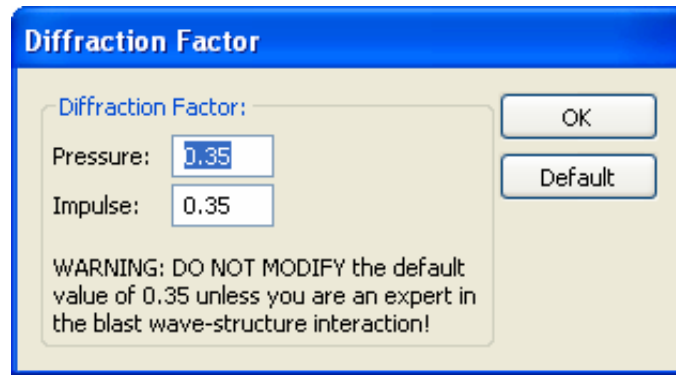

Figure 5 Diffraction Factor dialog box.
1. Select the **Analysis/Diffraction Factor** menu item. The Diffraction Factor dialog box appears as shown in Figure 5.